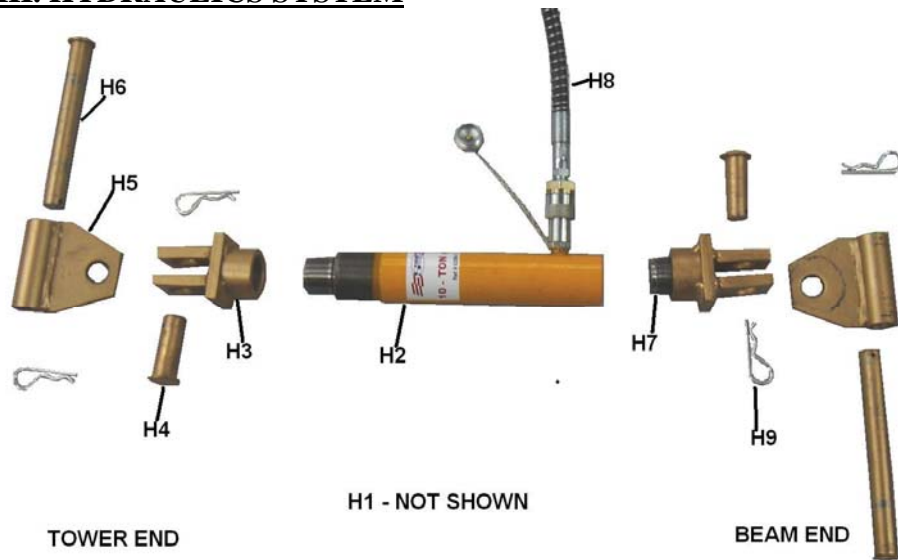
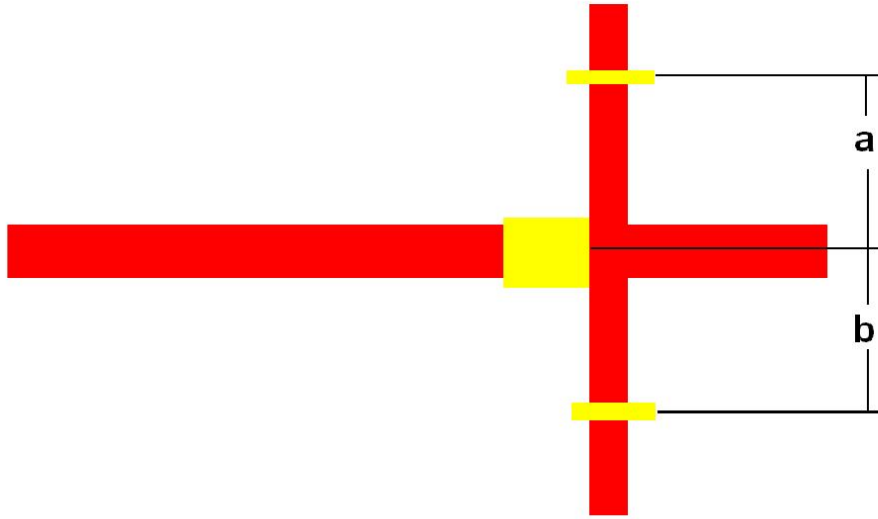

FIGURE 2 - HYDRAULICS, EXPLODED DETAILS
FIGURE 7 - CENTERING OF PUSHER ASSEMBLY
The unit is shipped unassembled. See Figures 2 through 6 for assembly and Figures 7 through 10 for specific applications.
- e. It is critical that the pusher assembly be centered between the pinchweld clamps. (see Figure 7)